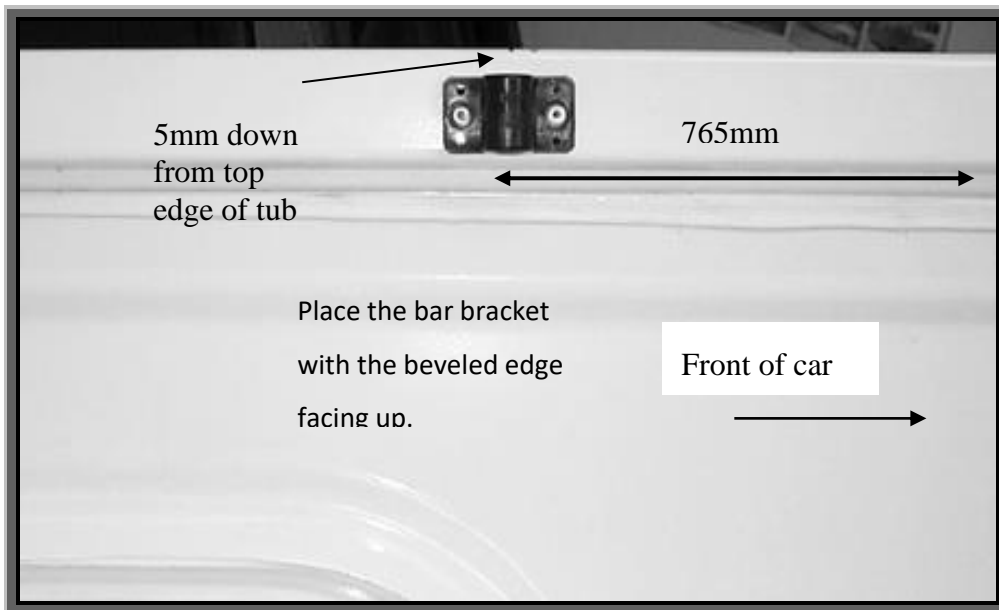

Figure 2
- STEP 6** To fit the bar brackets, measure 765mm back from the inside front edge at the top of the tub and place them as shown in Figure 2. (5mm down from top edge of tub) Drill and rivet using two large rivets for each Bar Bracket. Install the support bar according to the supplied instructions.